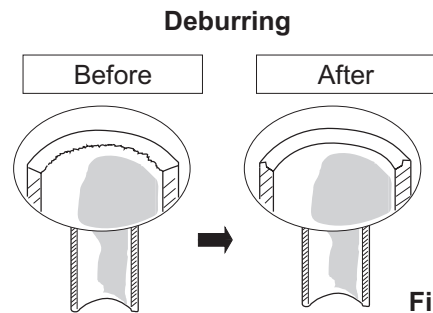

Fig. 1-26
- (1) Cut the copper tube to the required length with a tube cutter. It is recommended to cut approx. 30 – 50 cm longer than the tubing length you estimate.
- (2) Remove burrs at each end of the copper tubing with a tube reamer or file. This process is important and should be done carefully to make a good flare. Be sure to keep any contaminants (moisture, dirt, metal filings, etc.) from entering the tubing. (Figs. 1-26 and 1-27)